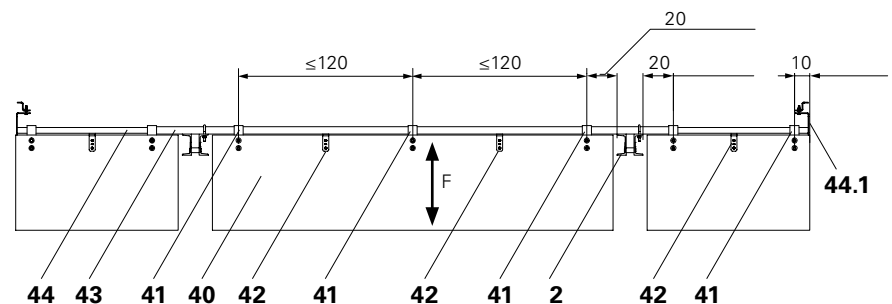

Fig. B2.11
- Take into account the fibre direction F of the surface layer! (Fig. B2.11)